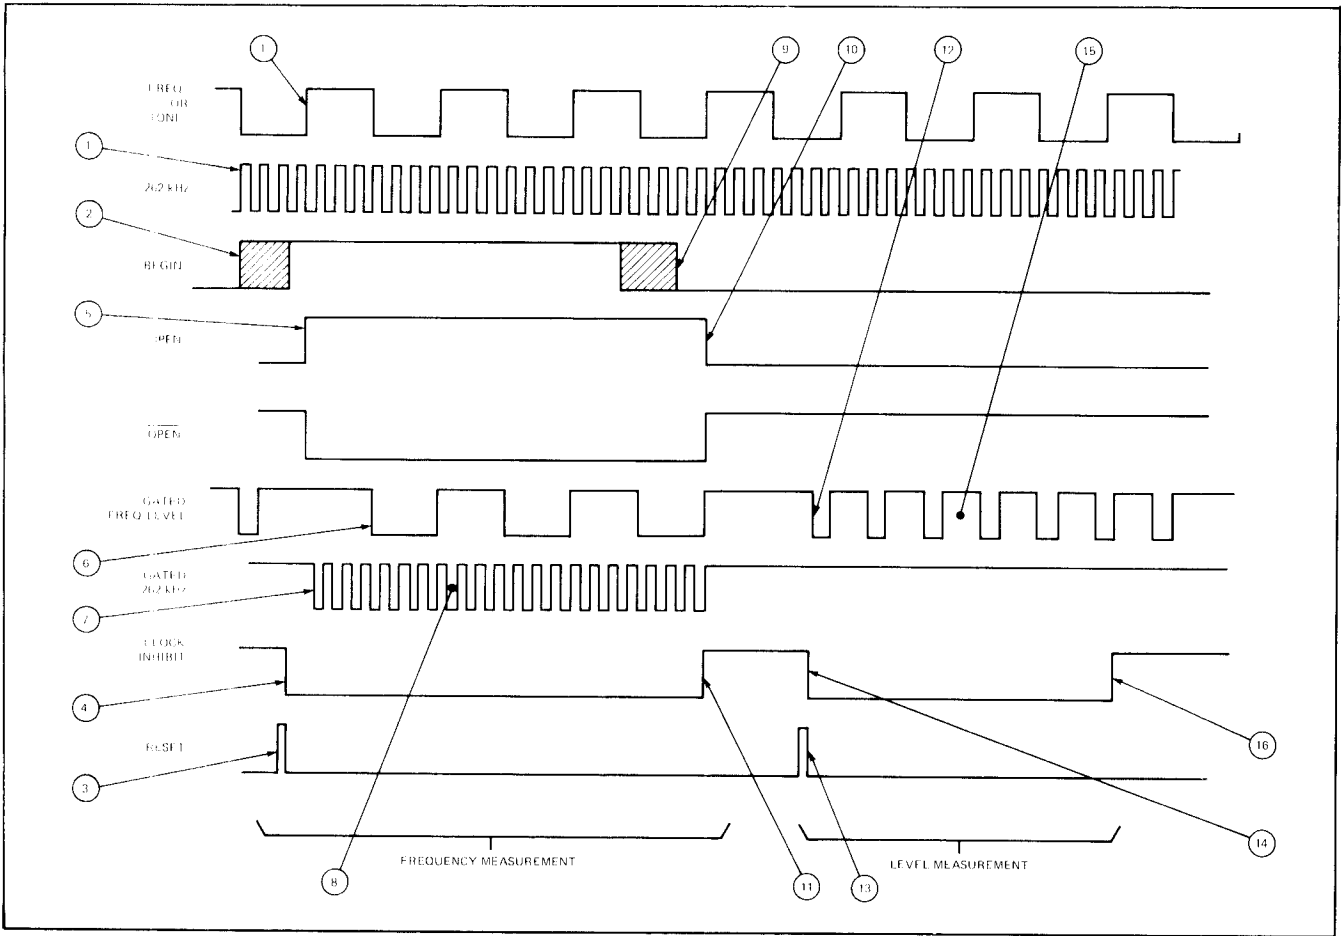

Figure 8-4. Frequency and Level Measurement Timing
8-33. Two counters are used to measure level and frequency. These counters are enabled by Port 5 bit 3 of the microprocessor and count pulses present for each counter. To select frequency, the microprocessor writes a 1 latch U12. Following the procedure given in the timing diagram found in figure 8-4, steps 1 through 11, the microprocessor has enough information to calculate frequency. The counters are read by addressing and serially reading successive bits from the two counters. Counter no. 2 contains the number of 262 kHz clock transitions detected during the gating or "Open" interval. Counter no. 1 contains a count of the frequency cycles which occurred during this same interval. Frequency is the number of complete cycles in a unit time interval, i.e. 10 cycles in 60 msec would be $10/.06 \text{ sec} = 167 \text{ Hz}$. The time interval is calculated from the number of counts in counter no. 2 by calculating $N/262,144$ which is the amount of time it takes to
8-35. Level measurement is “gated” by an internal timed loop in the microprocessor. The interval is accurately controlled by the microprocessor using the “Inhibit” command to counter no. 1 as shown in Figure 8-4 items 12 through 16.